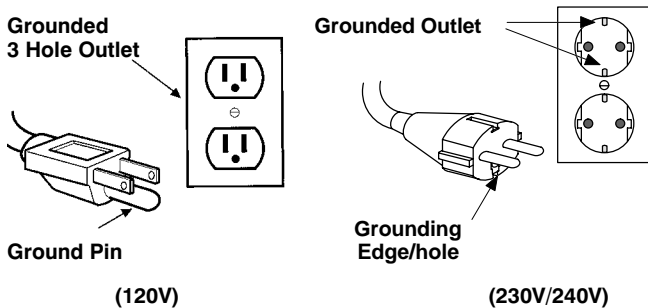

FIG. 1
3. Plug the power cord into a grounded outlet (Figure 1).